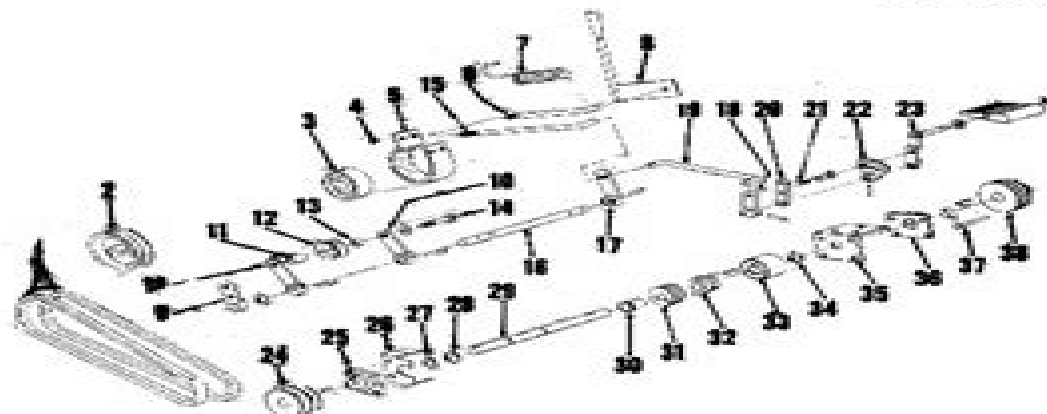

Fig. G13 — Exploded view of the clutch-brake system.
The clutch used on all models is the belt idler type and is operated by the clutch-brake pedal on left side of tractor. When the pedal is depressed, clutch idler tension is removed from the transaxle drive belts (1—Fig. G13). This allows the clutch drive pulley (31) to turn free within the transaxle drive belts. At this time, the brake band (5) is drawn tight on brake drum (3), stopping the tractor.
7. **ADJUSTMENT.** The clutch idler is spring loaded and requires no adjustment. The clutch-brake pedal (29—Fig. G13) can be adjusted by loosening bolt (21) and moving the pedal on adjusting plate (22). When the desired pedal position is obtained, tighten bolt (21).
8. **3-SPEED DRIVE BELTS.** To remove the transaxle drive belts (1—Fig. G13), first unbolt and remove the belt guide from around the